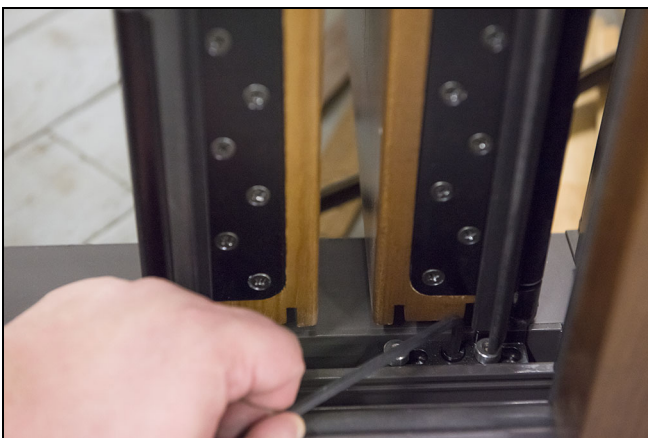

Figure 54
4. Turn the center adjustment cam with a 3/16" hex wrench to adjust side to side. Tighten the hex bolts that were loosened earlier. See Figure 54